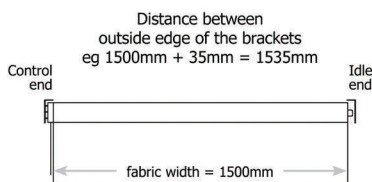

Fig.3
2. 1535mm would be the measurement from the outside of one bracket to the outside of the other bracket. (Fig.3)